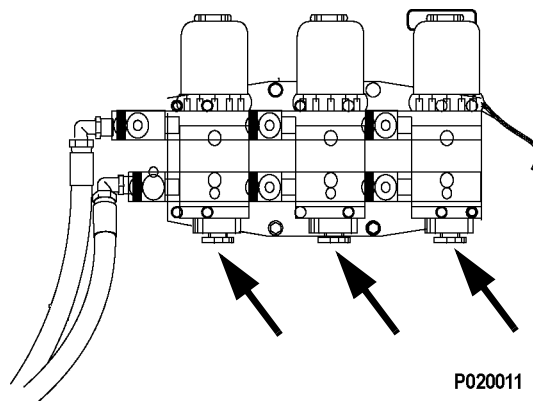

FIGURE 40-2. STAGE 1 FUEL FILTERS & WATER SEPERATORS
11. FUEL FILTERS (Water Separators) - Drain water from the bottom drain valve on each Stage 1 fuel separator. See Figure 40-2.